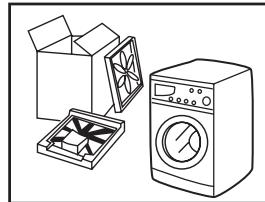
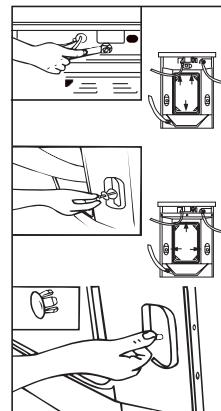

Fig.1
Fig.2
- Remove all the packing materials (including the foam base) to prevent vibration during use, as shown in Fig. 1.
- Dismantle the packing bolts as shown in Fig. 2. The packing bolts are designed for clamping anti-vibration components inside of the washing machine during the transportation process.
When opening the shrink package, you will find a calcium plastic board which is pasted on the top of the washing machine as shown in Fig.1. The board is used for reducing noise by pasting it under the cabinet when setting as shown in Fig.2.